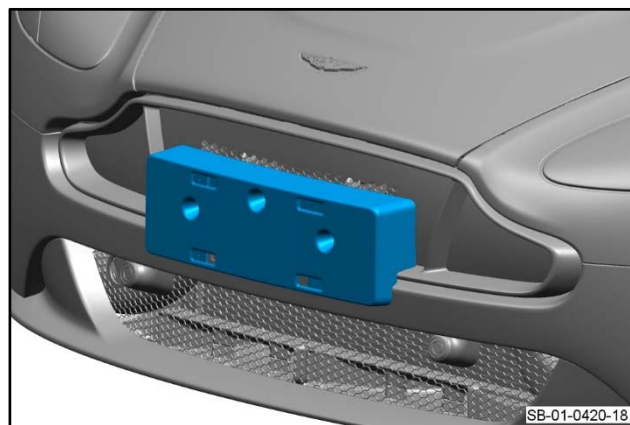

Figure 18
9. Put the license plate plinth into position (refer to Figure 18)